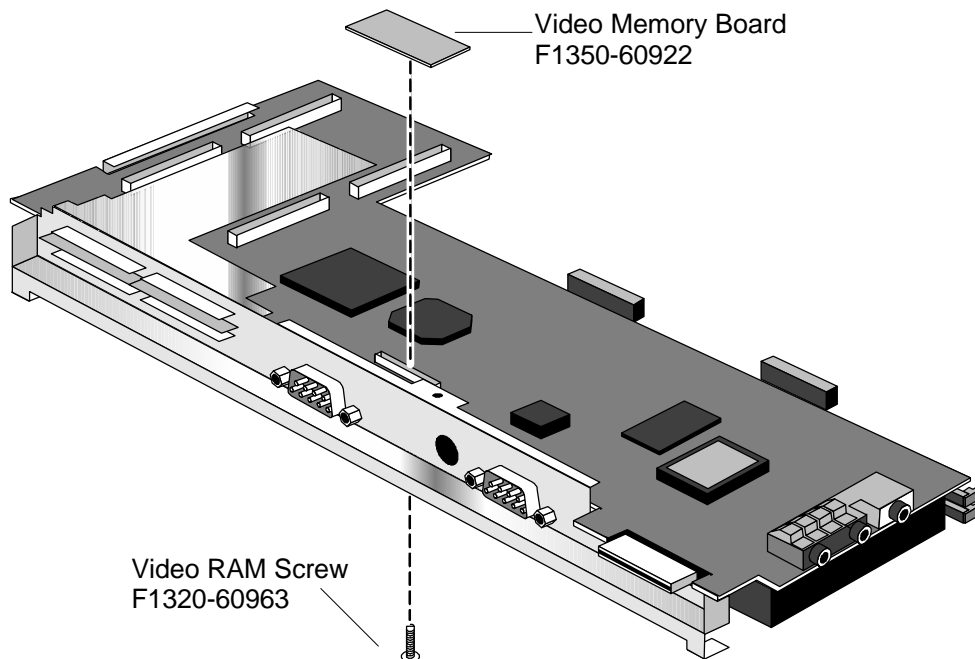

Figure 45 - Video Memory Removal
4. Remove the one necessary screw on the Logic PCA Board. See Figure 45.